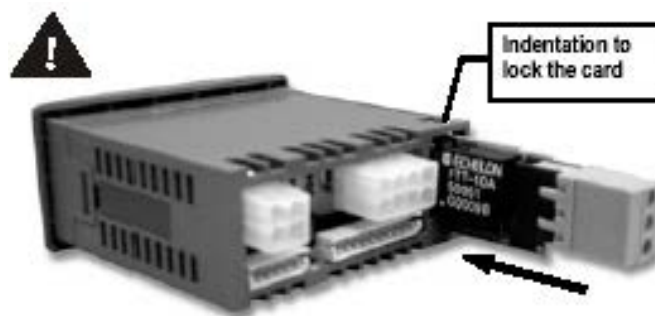

Figure 23 – Card Insertion
2. Insert the card (see Figure 23 – Card Insertion)
Insert the card (see Figure 23 – Card Insertion);